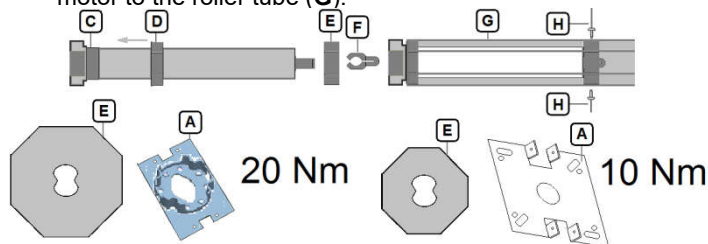

Figure 2
1. Use a special driver provided with the motor (figure 2-E)